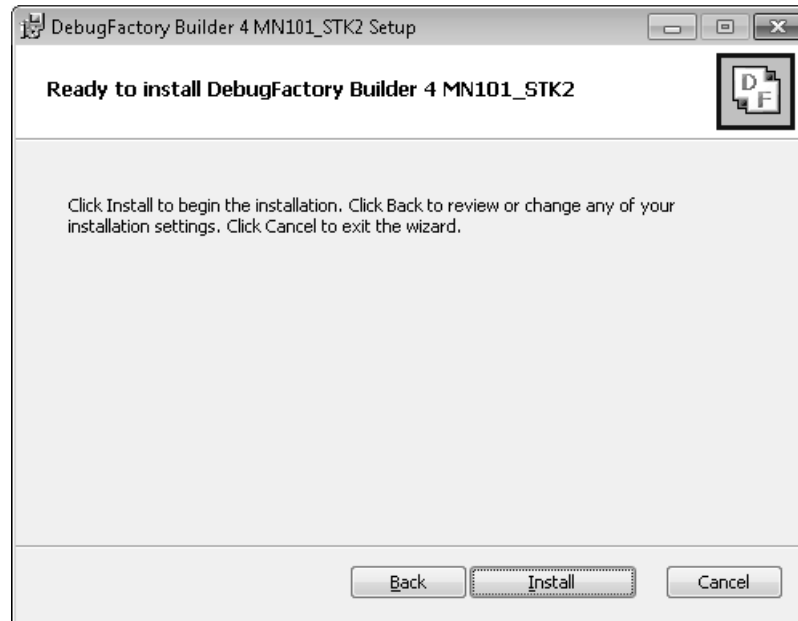

Figure 2.1.6 Start Installation
6. The dialog shown in Figure 2.1.6 appears. Click <Install>.